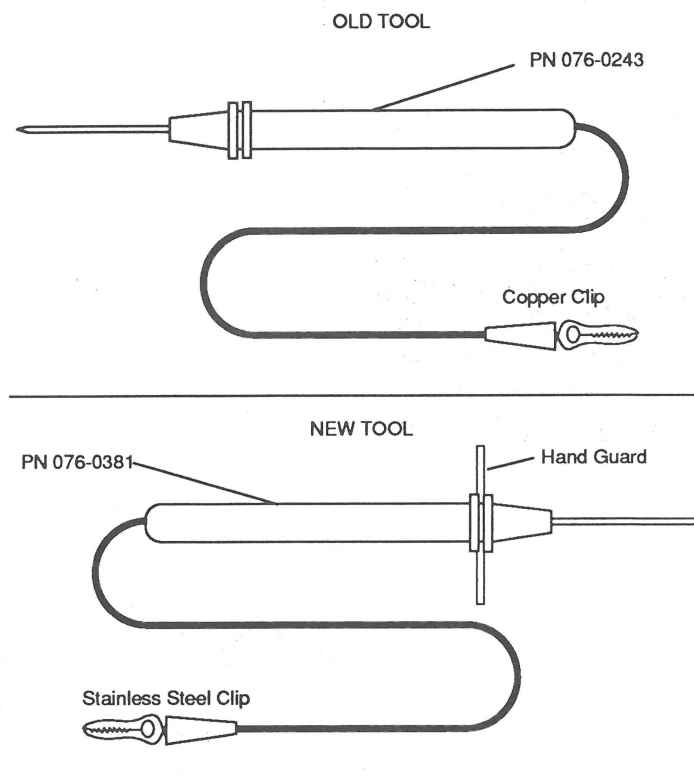

FIGURE 3
Three types of tools may be used to discharge a CRT (see Figure 3):
- **The older version of the Apple CRT discharge tool** (part number **076-0243**). (See Figure 3.) This tool is shaped like a fat fencing foil, with a copper alligator clip and no hand guard. This older discharge tool contains a **100-megohm resistor**, which means you will **not** hear an electrostatic crack when the CRT discharges, even if the monitor has no bleeder resistor. This older tool was designed with a resistor in order to diminish the impact of the electrostatic discharge on the Macintosh or Macintosh Plus logic board if a technician accidentally discharges the CRT to the metal chassis instead of to the ground lug. (The Macintosh logic board circuitry is grounded to the chassis.) This older tool is thus safer for use on the the Macintosh CRT. **However, since this tool does not provide auditory feedback (the electrostatic "crack"), the technician must repeat the discharge procedure using an insulated screwdriver to ensure that the CRT is indeed discharged.**
- **The recommended newer version of the Apple CRT discharge tool** (part number **076-0381**—the part number is marked on the tool). (See Figure 3.) This new version is also shaped like a fat fencing foil, but features a stainless steel alligator clip and has a hand guard. This discharge tool has no internal resistor—thus you may hear the electrostatic crack when discharging any monitor without a bleeder resistor. **Apple recommends this new tool because it is safer for the technician.** First of all, it has thicker insulation and a hand guard. Second, it permits auditory feedback (the electrostatic "crack"), which assures the technician that the CRT is indeed discharged. **But remember, if you use this new tool on a Macintosh or Macintosh Plus, you must discharge to the ground lug to avoid destroying the logic board!**